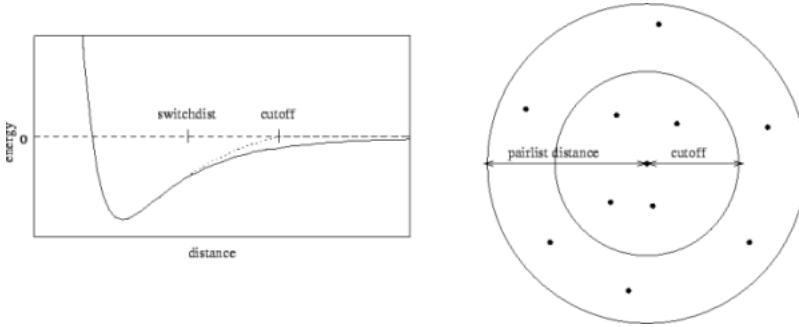

Figure 5: Cutoff and switching distances indicated on the left. Pair list distance indicated on the right.
- **switchdist:** indicates the distance in Å at which the functional form of electrostatic and van der Waals interactions is modified to allow their values to approach zero at the **cutoff** distance. A visual explanation of this is useful and may be found in Figure 5.
- **pairlistdist:** is designed to make computation faster. It specifies a distance in Å. NAMD will only search within this distance for atoms which may interact by electrostatic or van der Waals interactions. This way, NAMD does not have to search the entire system. The distance must be greater than the **cutoff** distance, and the list must be updated during the simulation. See Figure 5.